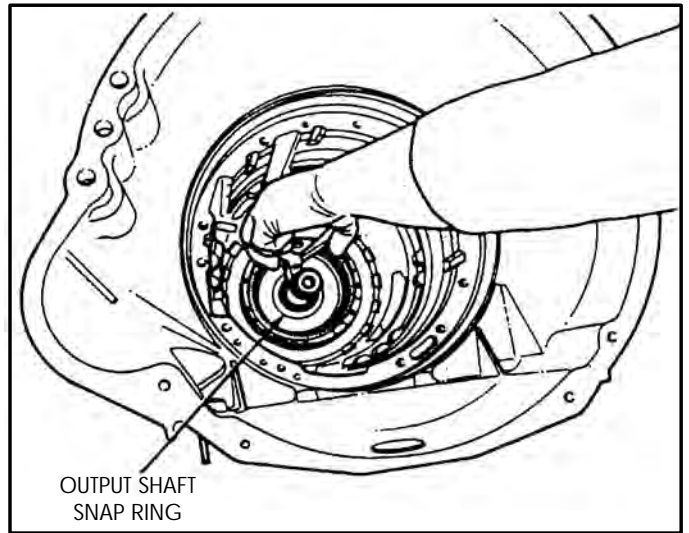

Figure 68
24. Remove the output shaft snap ring using snap ring pliers, as shown in Figure 68.